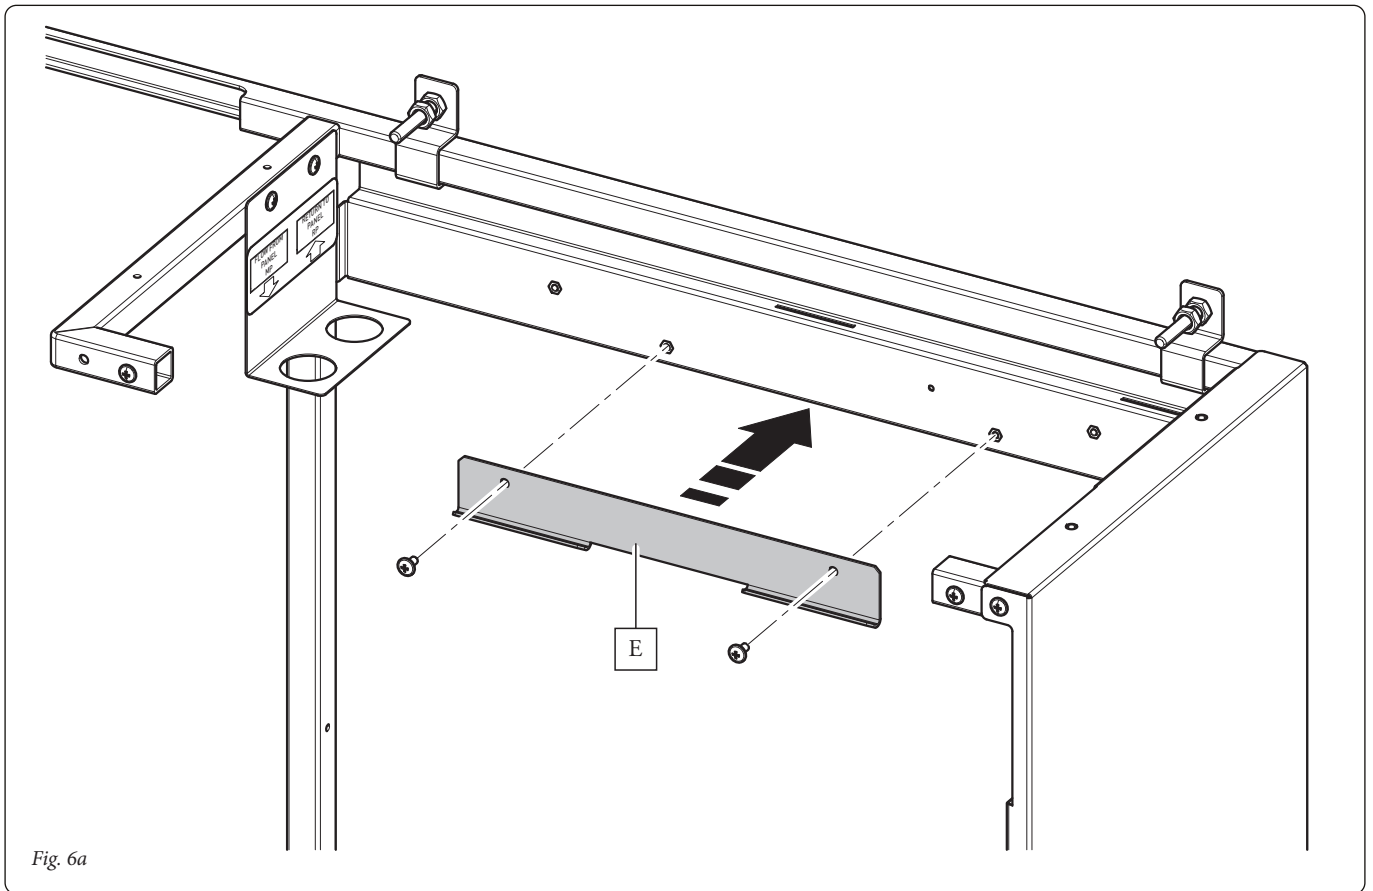

Fig. 6a
upper cross member on the Domus Container (Fig. 6a).
- UI Magis Pro V2: tighten the bracket (E) in the accessory unit to the appropriate upper cross member on the Domus Container (Fig. 6a).